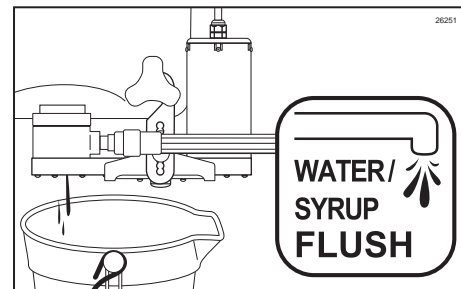

Figure 81
2. Place a container under the Injector Head to catch sanitizer solution and/or fresh product to be dispensed. Press and hold the WATER / SYRUP FLUSH key to prime the syrup line. (See Figure 81.)